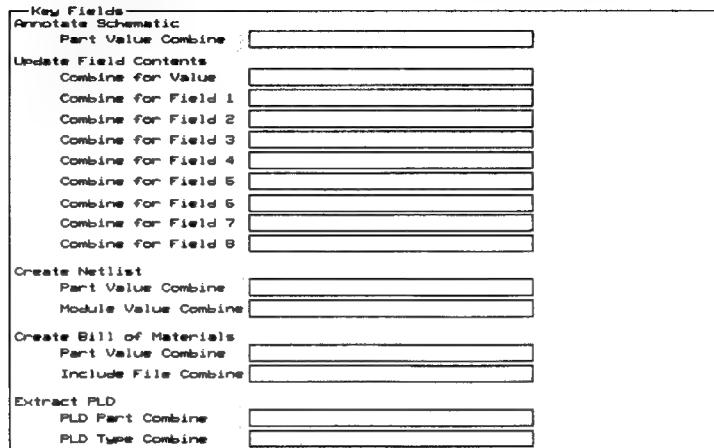

Figure 7-8. Key Fields area of the Configure Schematic Design Tools screen.
2. Scroll to the Key Fields area of the Configure Schematic Design Tools screen (figure 7-8).